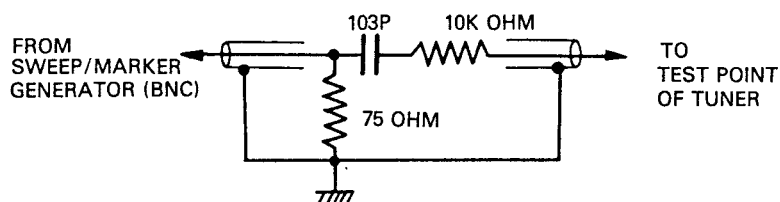

Figure 6. MATCHING PAD
3. Connect the output of sweep/marker generator in series with matching pad to test point on the tuner through 10K ohm resistor. (Fig. 6).
3. Connect the output of sweep/marker generator in series with matching pad to Test Point on the tuner through 10K ohm resistor. (Fig. 6).